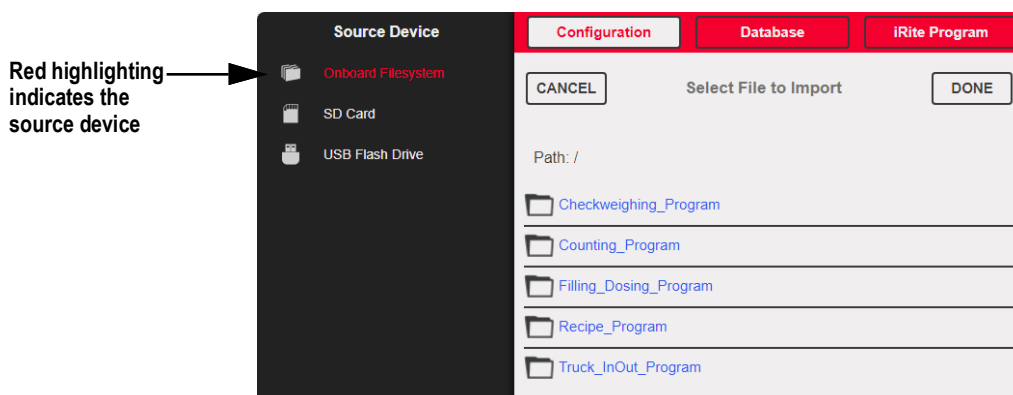

Figure 14-1. Import Configuration
NOTE: The Import Configuration screen looks the same whether importing from an onboard file system, a micro SD card or a flash drive. The only difference is the source device is highlighted in red on the left side of the screen. For an example, see Figure 14-1, a file is being imported from an onboard file system.
2. Press **Import from File**. The Import Screen displays, see Figure 14-1 on page 125. Load both the .rev and .cod files to use the built-in application programs.
4. Select **Import from File**. The Import Screen displays, see Figure 14-1 on page 125.
2. Press **Import from File**. The Import Screen displays, see Figure 14-1 on page 125.
3. Press **Import from File**. The Import Screen displays, see Figure 14-1 on page 125.